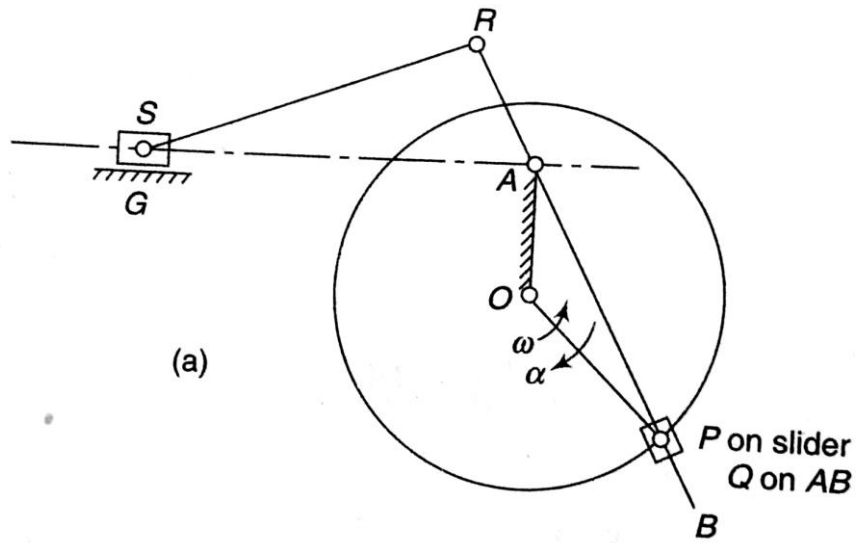

Fig. 7b
- b) For the Whitworth quick return mechanism as shown in Fig. 7b, the determine following when the crank  $OP$  has an angular velocity of  $2.5$  rad/sec and angular deceleration of  $20$  rad/s2 at the instant. 14